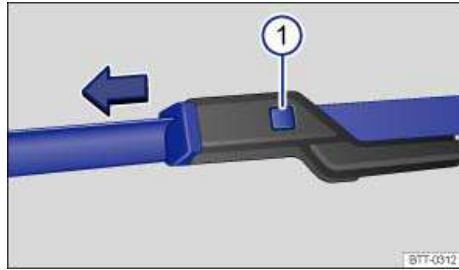

Fig. 147 Changing the windshield wiper blades.
- Press and hold the release button ⇒ fig. 147 \(1\).